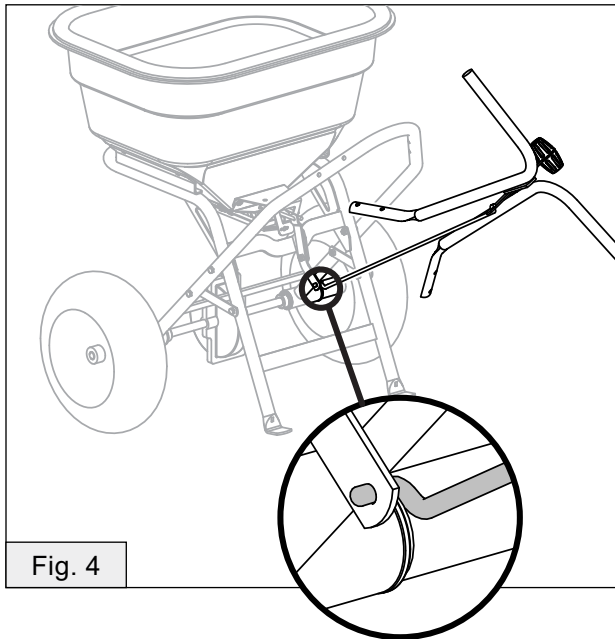

Fig. 4
4. Turn handle/linkage assembly sideways and insert end of linkage into rate gate linkage, Figure 4.